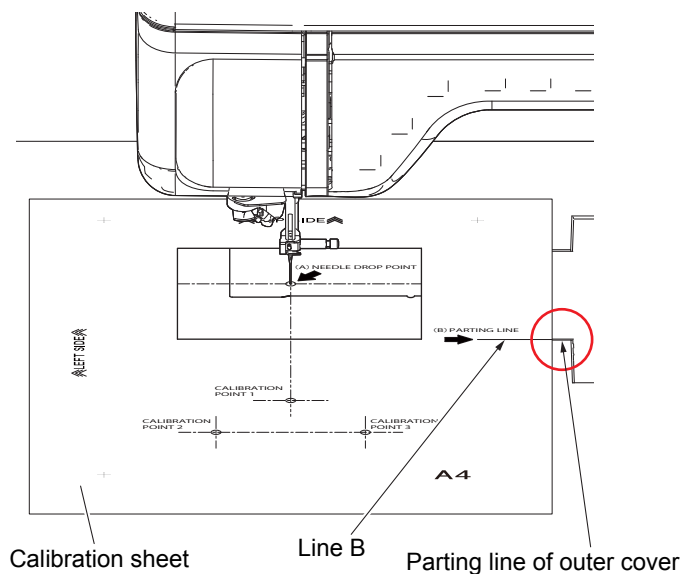

Fig.8
8. Arrange the calibration sheet with the needle top in so as to be parallel with the machine. (Fig.8)